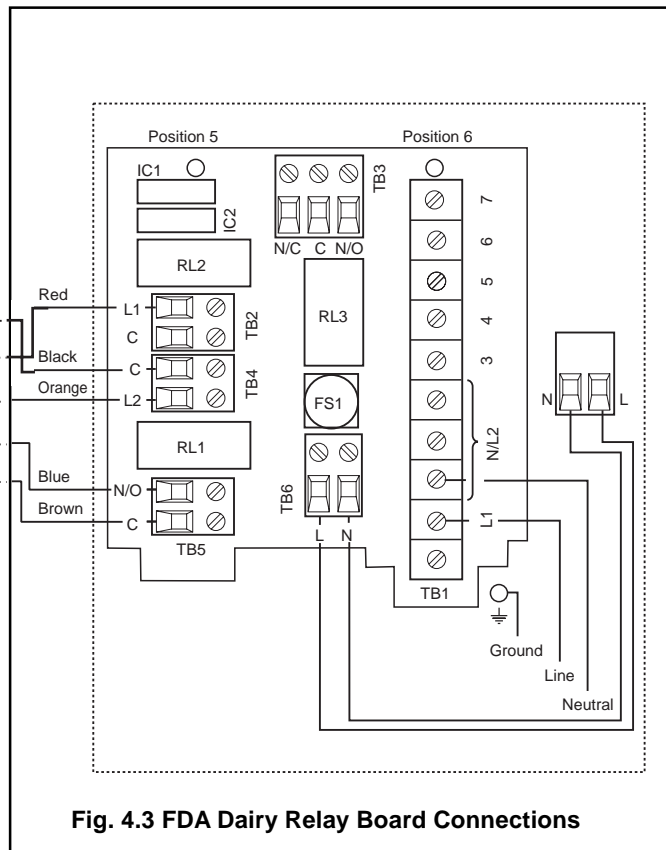

Fig. 4.3 FDA Dairy Relay Board Connections
4.3 Dairy Relay Board Connections – Fig. 4.3